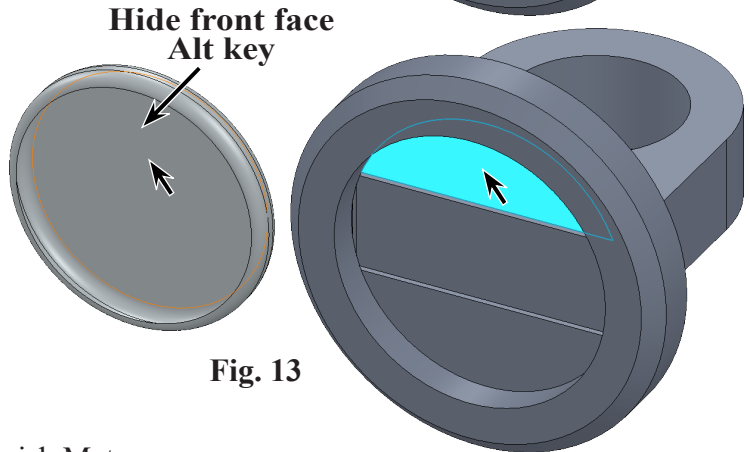

Fig. 13
Step 2. Click **inside face of Socket** and **hide front face of Magnet**, click **rear face of Magnet**, **Fig. 13**. To hide face, hover cursor over face and press **Alt** key.